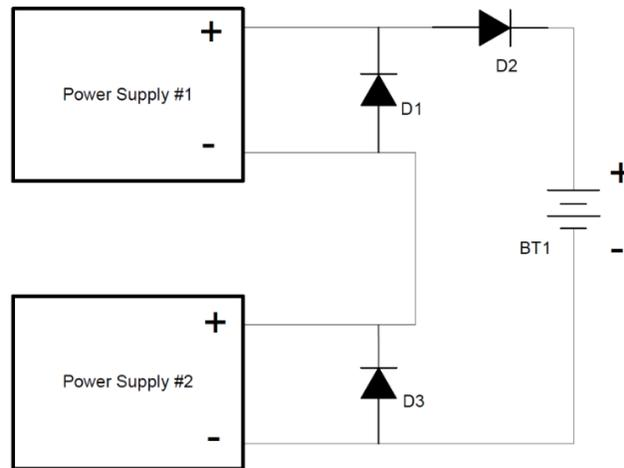

Figure 3-112. Series Connection with Anti-Parallel Diodes
3. An anti-parallel diode (power diode capable of the maximum current of the series group, connected across the output, but reverse biased) is recommended to protect against sinking current into a supply should one supply be ON while another other is OFF, as shown in Figure 3-112.